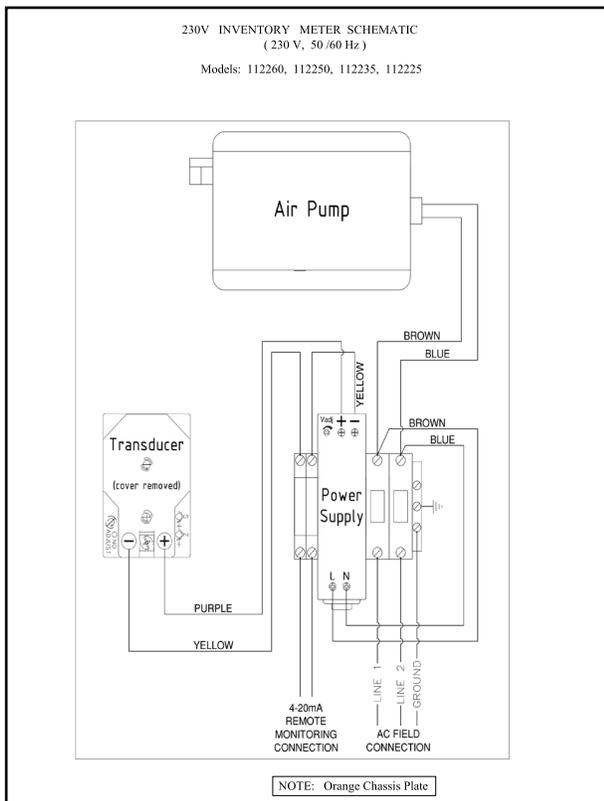

Figure 1. Electrical Component Schematic
**B3.** Make electrical connections per the electrical component layout. (See Figure 1.) Model LL-102 has a terminal strip with two AC power connections, a ground and two low voltage connections for the 4 to 20 milliamp signal to the monitoring equipment.
**E8.** The transducer is calibrated at the factory but if the mA reading is not correct, slightly turn the zero (z) adjustment screw (See Figure 1.) to correct the reading.
**E10.** The transducer is calibrated at the factory but if the mA reading is not correct, slightly turn the zero (z) adjustment screw (See Figure 1.) to correct the reading.